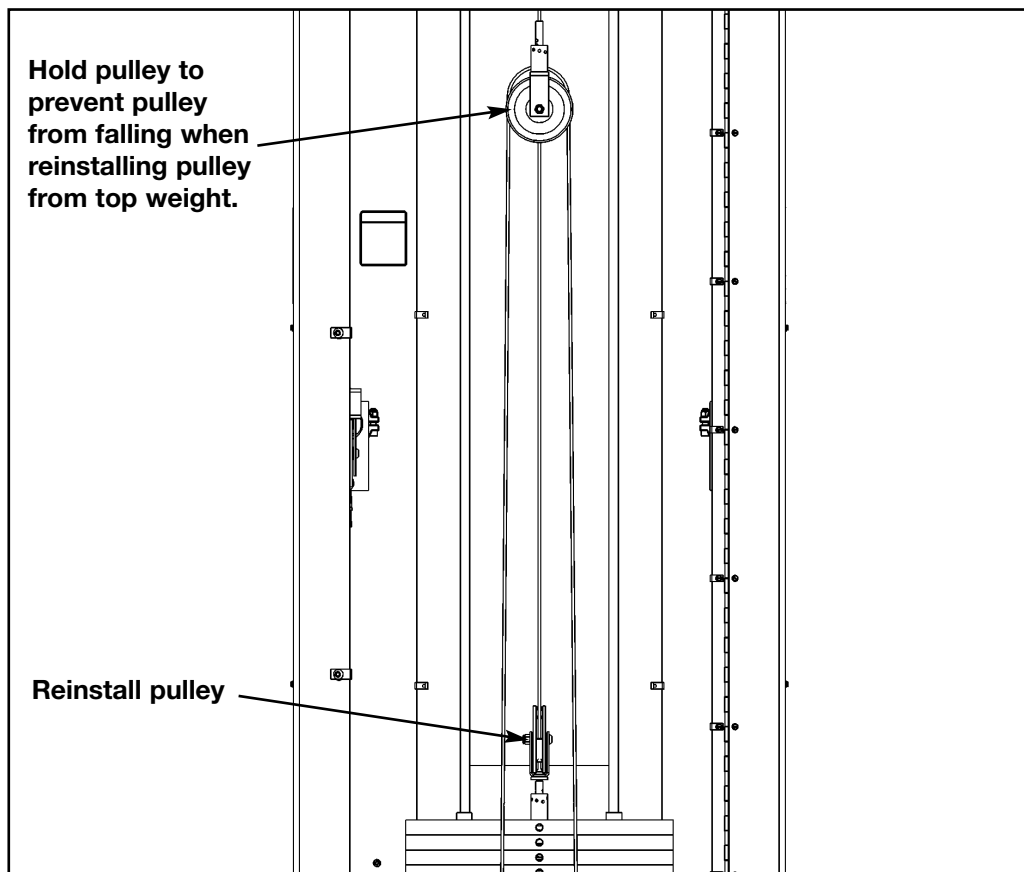

Figure 7
**O.** Move pulley and cable back inside the column and reinstall pulley/cable back onto top plate. See Figure 7.